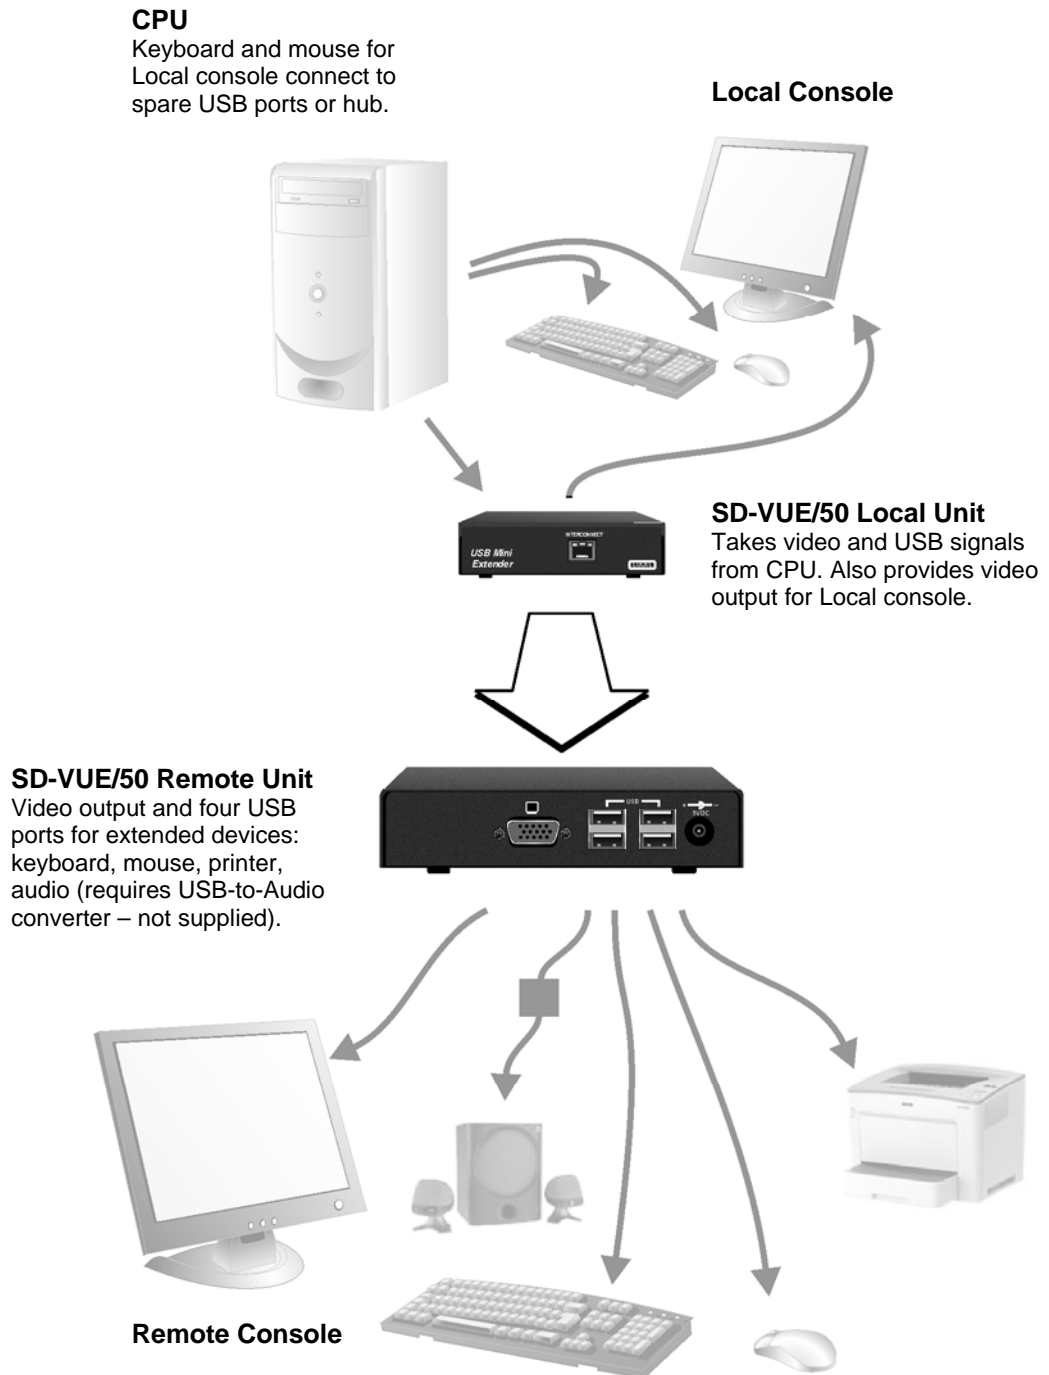

Figure 6 *Single monitor consoles with audio extension using USB-to-Audio converter (not supplied)*
- Simple system using SD-VUE/50 to provide remote console with extended USB keyboard, mouse and printer (Figure 6). Audio extended by USB using USB-to-Audio converter at the Remote Unit (not included).